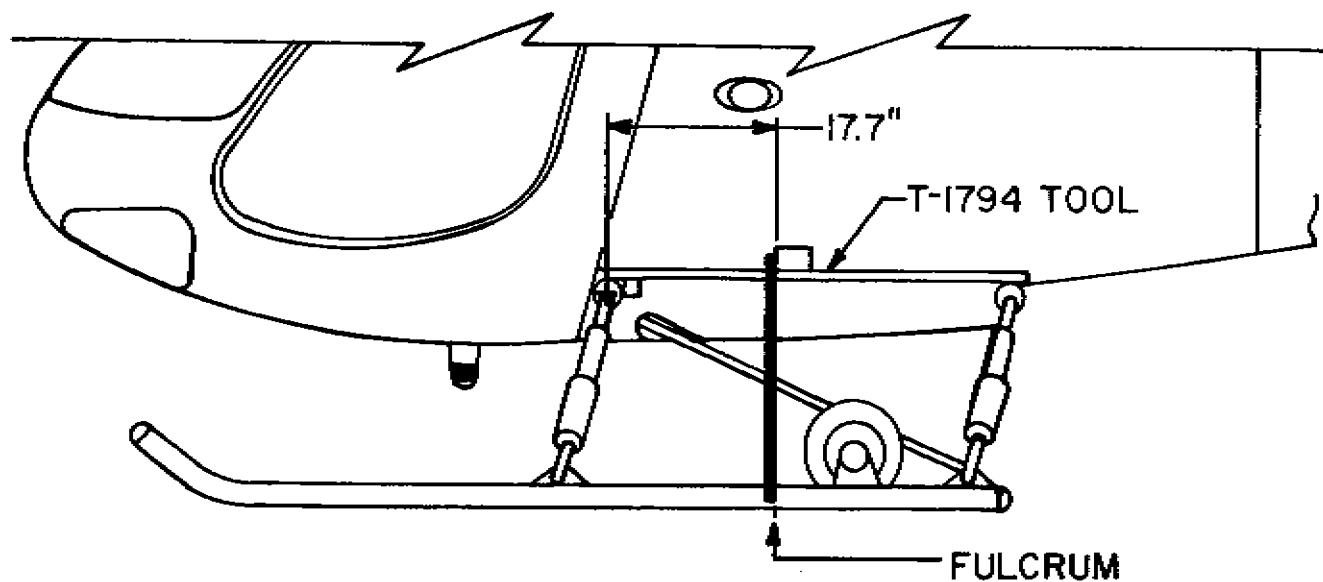

FIGURE 6.3
- NOTE:** See Figure 6.3 for locating fulcrum by using Enstrom tool number T-1794. This tool may be purchased from Enstrom Helicopter Service Department.